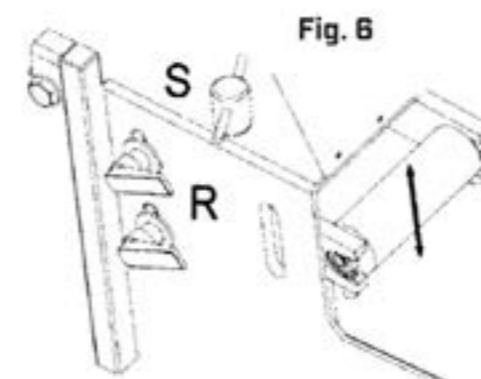

Fig. 6. Adjustment of the sanding belt height.
1. Loosen both clamping levers R (Fig. 6)
2. Adjust the height of the grinding roller with the adjusting screw S (Fig. 6)